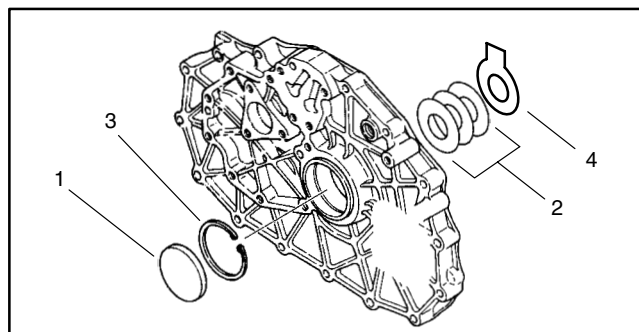

Figure 95
NOTE: The thickest shim of the shim set (Item 2) should be positioned against the snap ring (Fig. 95).
21. Insert tabbed shim (Item 4) against the bearing. Insert shim set (Item 2) against the tabbed shim. Use thickest shims in set possible, that will permit installation of the snap ring. (Fig. 95 and 96).